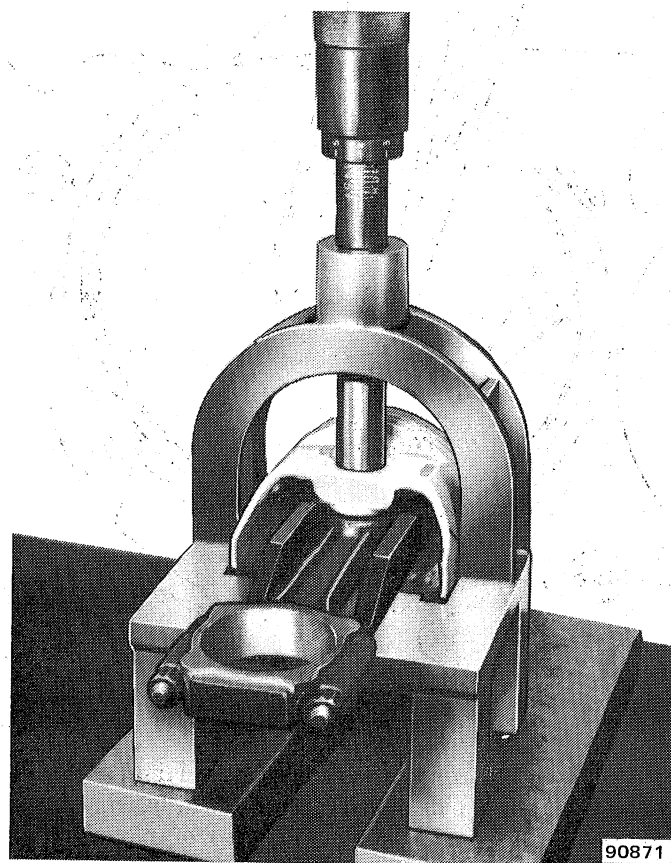

Fig. 1B-30 Removing Piston Pin
(1) Remove piston rings using suitable piston ring removal tool.
(2) Install guide bushing of Piston Pin Removal and Installation Tool J-24086.
(3) Position piston and connecting rod assembly on support and place assembly on arbor press (fig. 1B-30).
(4) Press pin out of connecting rod with Piston Pin Removal Tool J-24086.